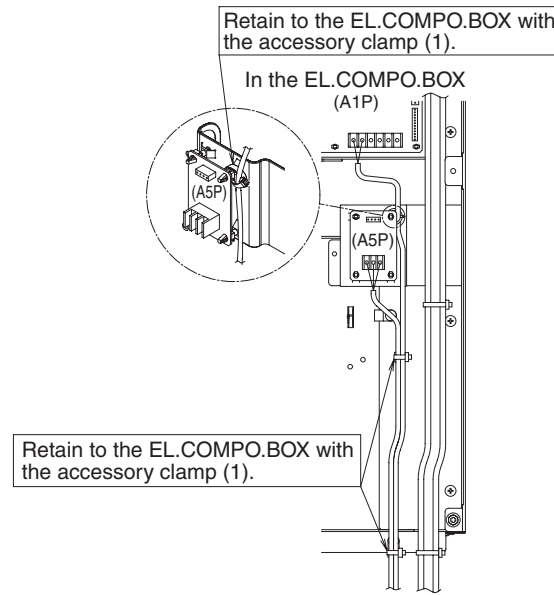

figure 24
- The transmission wiring inside the EL.COMPO.BOX should be secured using the clamp (1) as shown in figure 24.